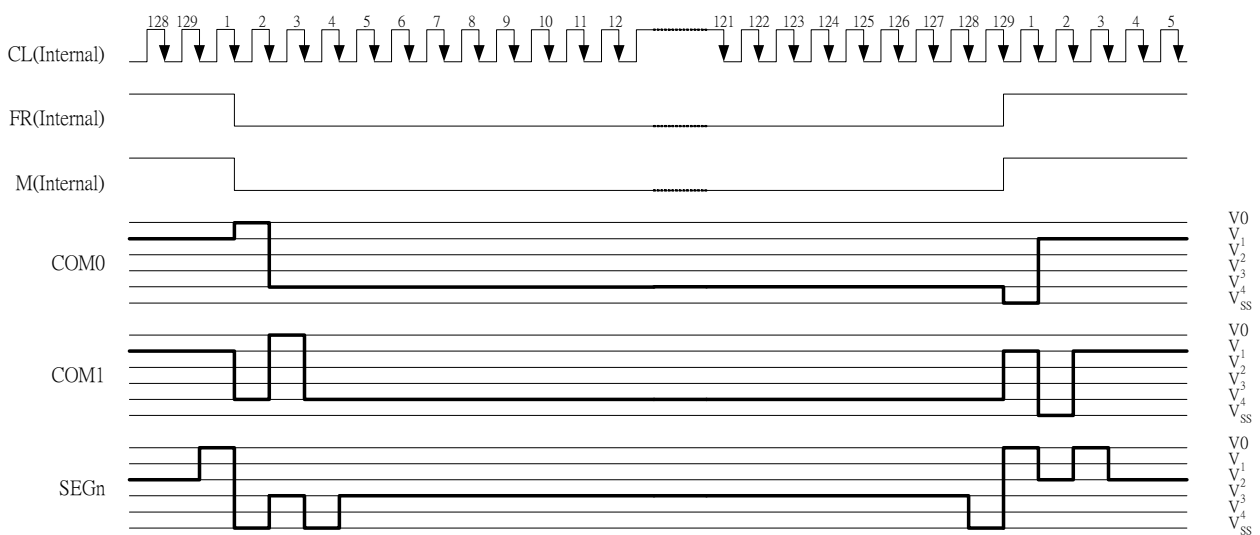

Figure 11 2-frame AC Driving Waveform (Duty Ratio: 1/129 in mode-0)
This circuit generates some signals to be used for displaying LCD. The display clock, CL (internal), generated by oscillation clock, generates the clock for the line counter and the signal for the display data latch. The line address of on-chip RAM is generated in synchronization with the display clock and the display data latch circuit latches the 128-bit display data in synchronization with the display clock. The display data, which is read to the LCD driver, is completely independent of the access to the display data RAM from the microprocessor. The display clock generates an LCD AC signal (M) which enables the LCD driver to make an AC drive waveform, and also generates an internal common timing signal and start signal to the common driver. The frame signal or the line signal changes the M by setting internal instruction. Driving waveform and internal timing signal are shown in Figure 11.